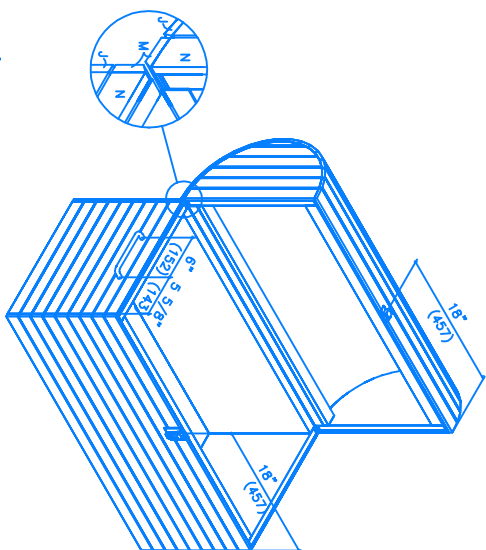
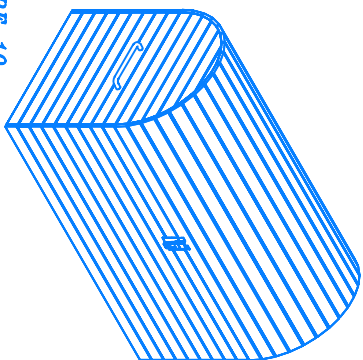

FIGURE 9
FIGURE 10
- 6) With the lid closed, see (Fig 10), attach the clamp to top and bottom with supplied clamp hardware. Attach carry handles (nails, see (Fig 9 & 10), smaller than the manufacturer's supplied mounting screws. Install handles by screwing through from inside of pieces E into carry handles